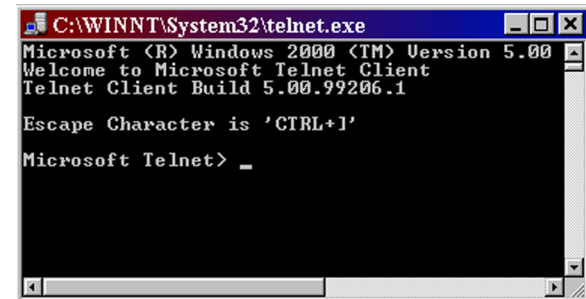

Figure 4-18 — Telnet command prompt
1. From the Windows Start menu, Click Run, then enter "Telnet" and click OK. The Telnet program starts (see figure 4-18).